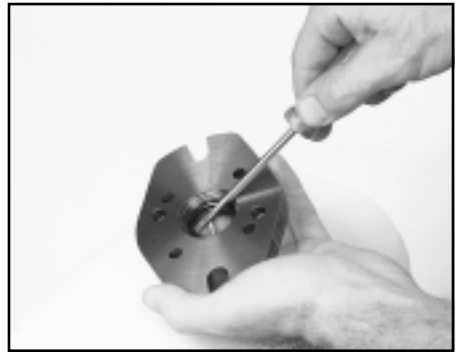

Figure D15
15. To remove the high pressure lip seal, the roller bearing must first be removed. Use a suitable bearing puller while taking care not to damage the flange. Once the bearing is removed, the seal can be pushed out of the flange using a blunt instrument. SEE FIGURE D15.